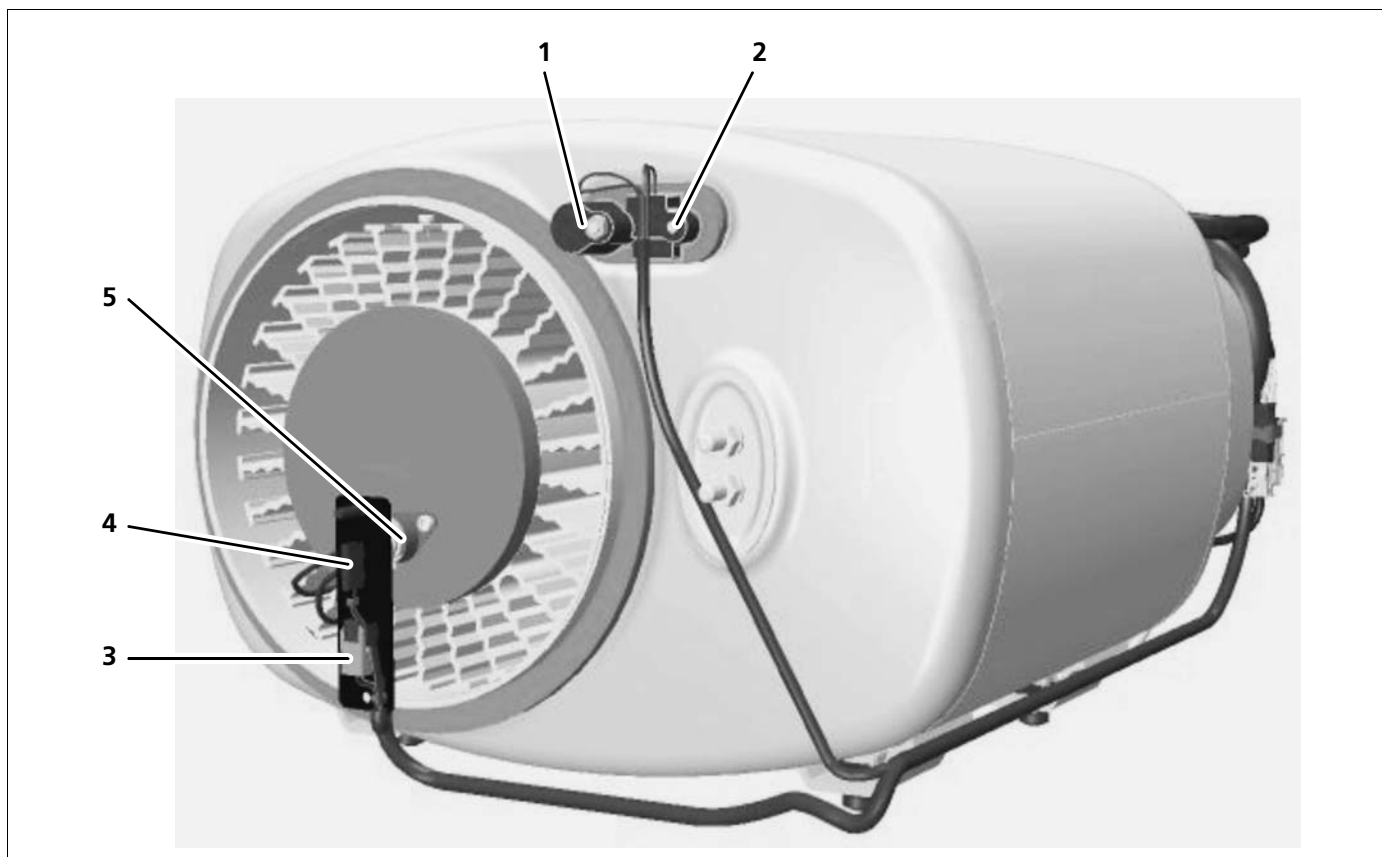

Fig. 503 Sensor positions
If you conduct this test with a digital multimeter, the air temperature sensor (see Fig. 503) must have the values shown in the following diagram:
- B: Temperature of water temperature sensor -G18- (see Fig. 503) in °C
The air temperature switch (see Fig. 503) opens at  $145 \pm 5$  °C.
The water temperature switch (see Fig. 503) opens at  $90 \pm 5$  °C.
The overheating protector (temperature switch heat exchanger, see Fig. 503) opens at  $352 \pm 15$  °C and closes at 240 °C.